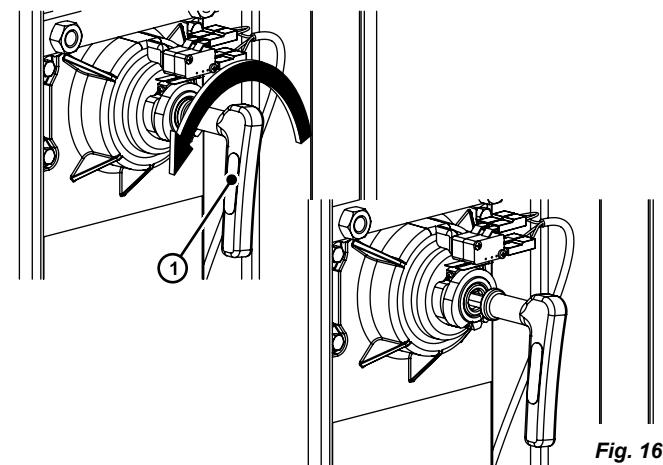

Fig. 16
3. Insert the release key, fig. 16 ref. ①, in the release device opening.